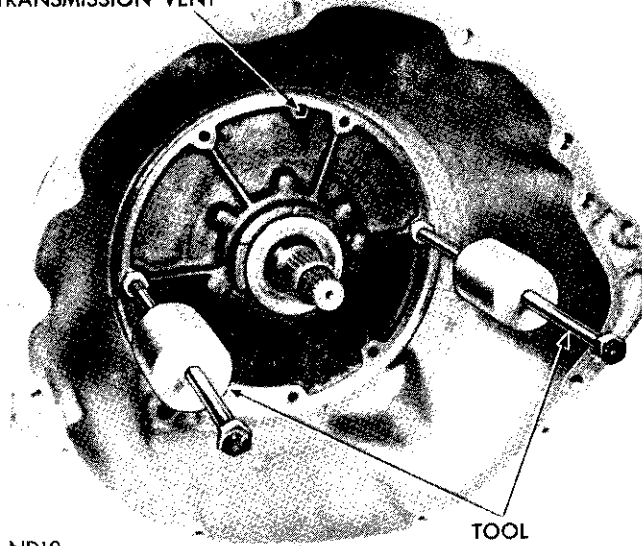

Fig. 38—Removing Pump and Reaction Shaft Support Assembly
(1) Tighten front band adjusting screw until band is tight on the front clutch retainer. This prevents clutch retainer from coming out with pump which might cause unnecessary damage to the clutches.
(2) Remove oil pump housing retaining bolts.
(3) Attach Tool C-3752 to the pump housing flange (Fig. 38), thread screws of tool into the flange holes at 9 and 3 o'clock locations.
(4) Bump outward evenly on the two "knocker weights" to withdraw pump and reaction shaft support assembly from the case.